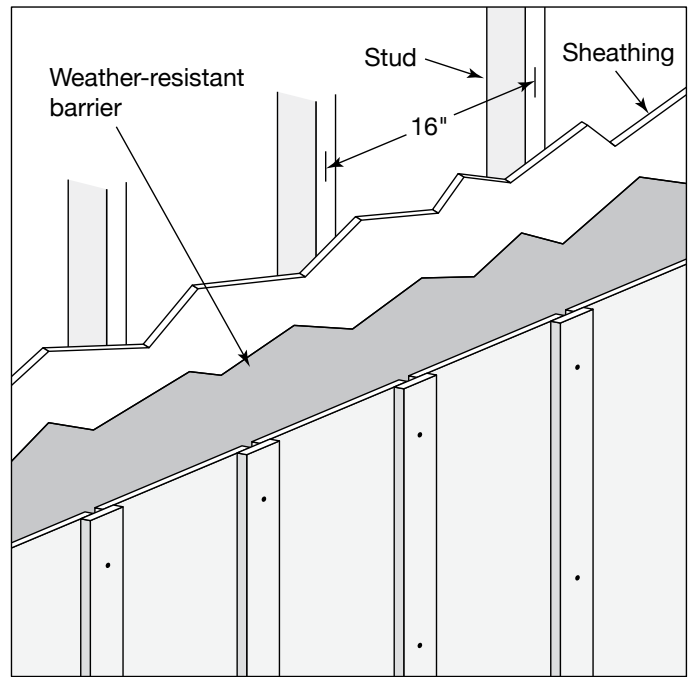

Fig. 2
- TruExterior Board-and-Batten Siding must be installed on frame-built walls with studs spaced 16 in. O.C. or at most 24 in. O.C. (**Fig. 2**).
- Wall sheathing must meet local codes and have a minimum thickness of 7/16" for O.S.B. or 15/32" for plywood (**Fig. 2**)